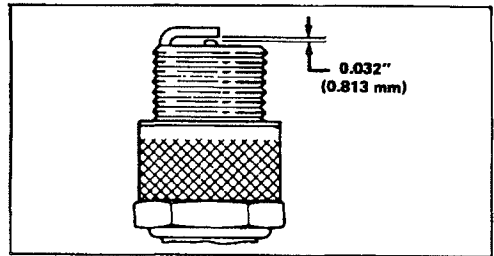

Figure 15
3. Set air gap at 0.032" (0.813 mm) (Fig. 15). Install correctly gapped spark plug and gasket seal. Tighten plug firmly to 15 ft-lb (20.4 N-m).